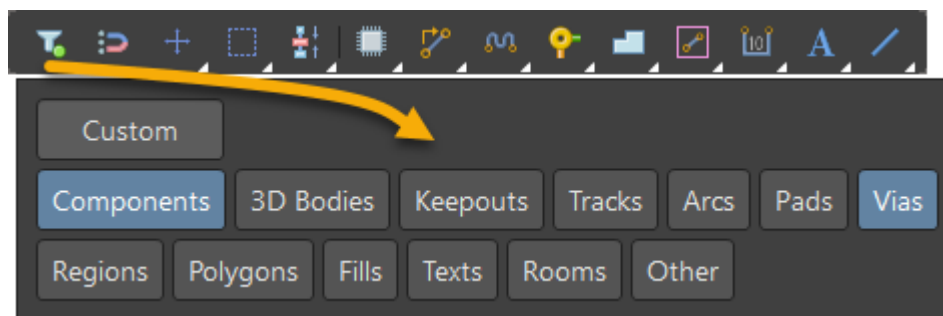

Figure 1. Enable All Objects in the Selection Filter
15. Later you can re-set the filter in the *Active Bar*, as shown in Figure 1.